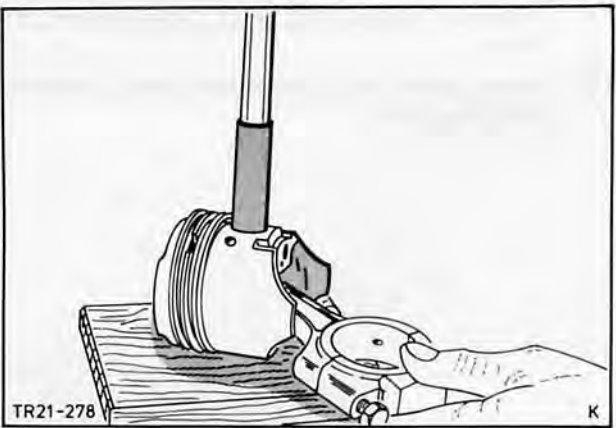

Fig. 217. Fit piston pin
- Slide piston pin in up to first circlip fitted earlier, Fig. 217. Fit second new circlip.